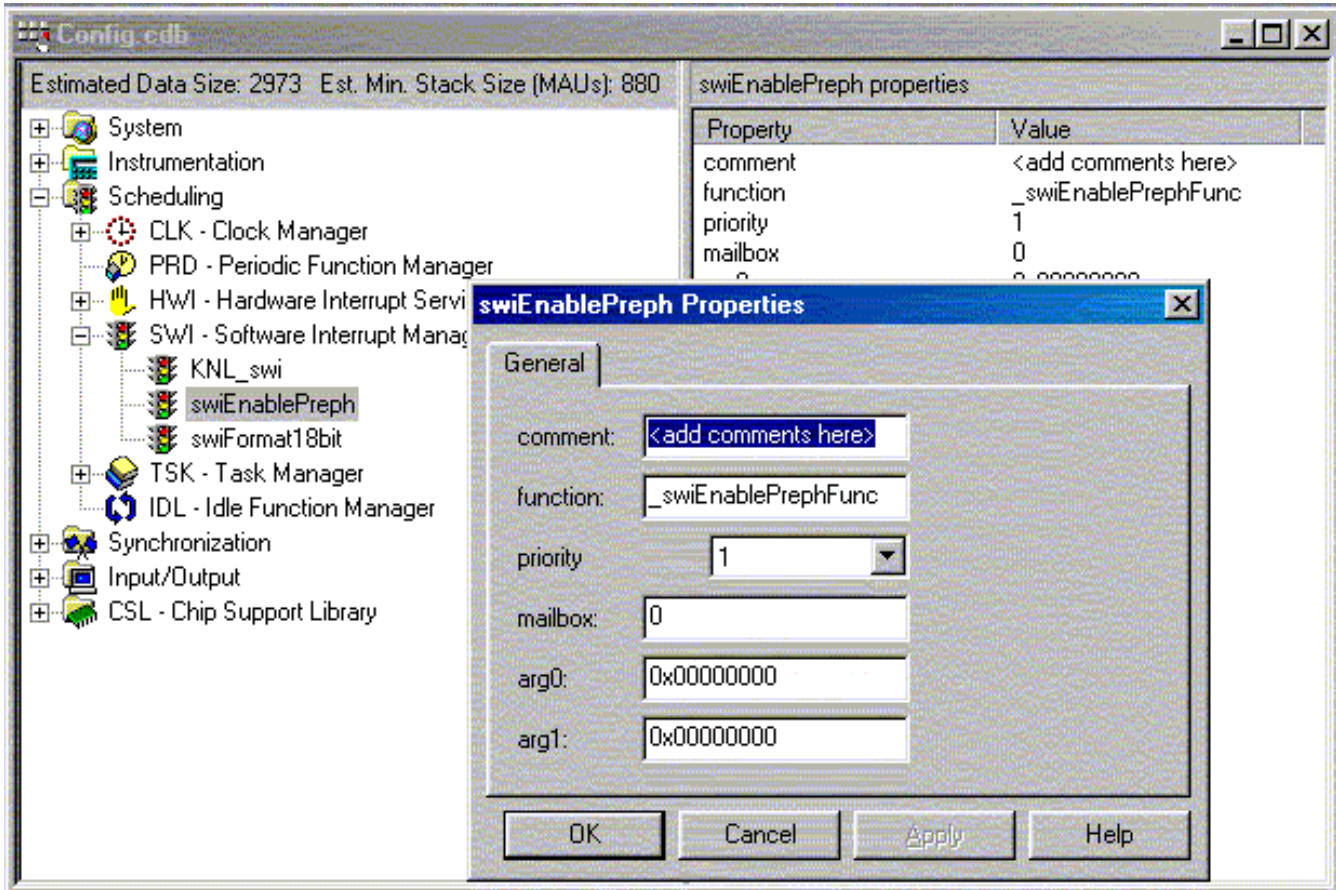

Figure 29. swiEnablePreph Properties
2. Right click on swiEnablePreph and set the fields shown in Figure 29. EnablePreph software interrupt enables the timers, and re-initializes and enables EDMA channels.